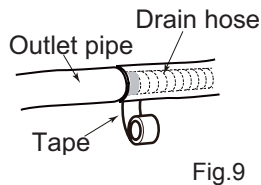

Fig. 9
(2) Bind the joint with tape. (As show in Fig.9)